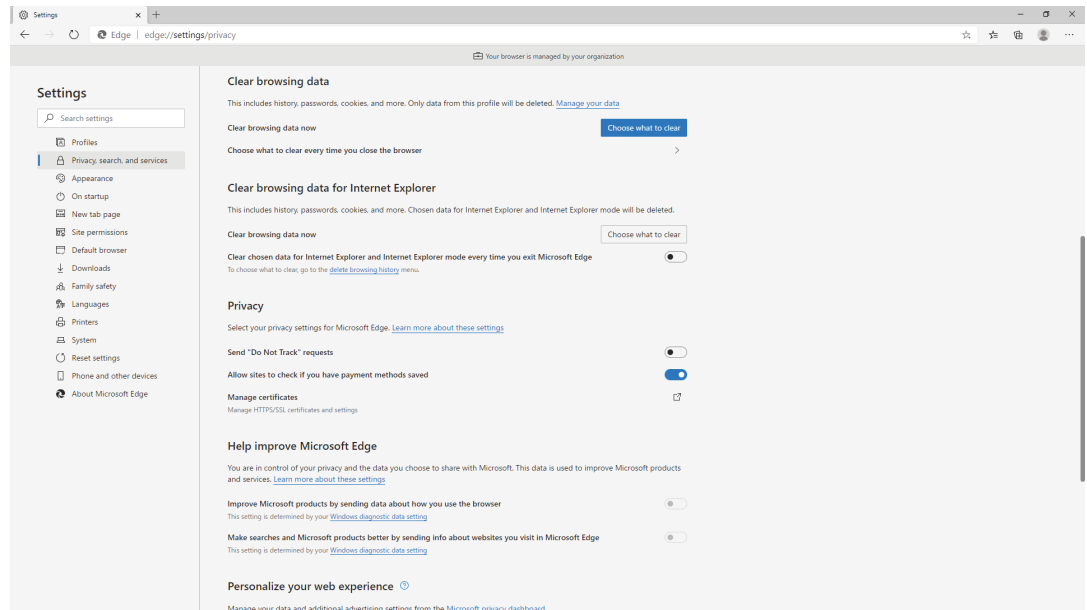
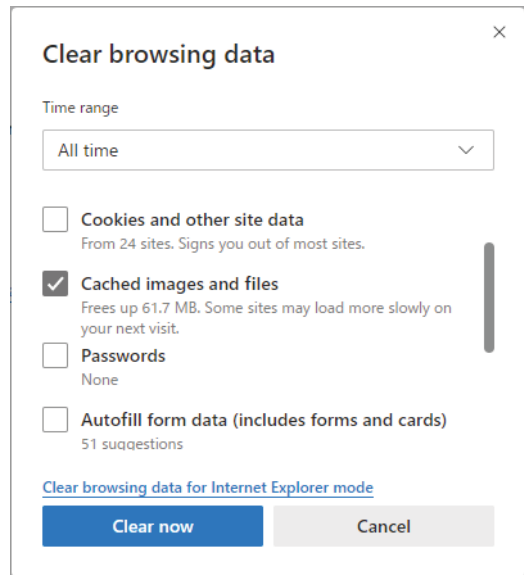

Figure 127. 'Settings' window.
Figure 128. 'Clear browsing data' window.
- When the 'Settings' tab is displayed, select **Privacy, search, and services** at the left of the 'Settings' window (Figure 127). The 'Clear browsing data' window pops up (Figure 128).
- Check "Cached images and files" at the second from the top, and then select **Clear now** at the bottom (Figure 128). The cache is now deleted.